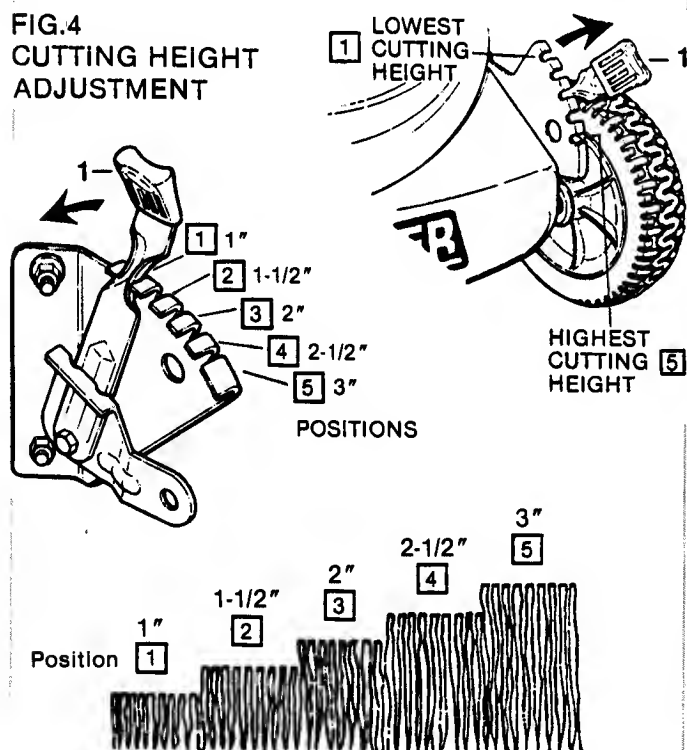

FIG. 5-CUTTING HEIGHT SETTINGS
- **CHECK** cutting height and adjust as needed, to suit the prevailing grass conditions. Refer to FIG. 5.
During dry seasons, allow the grass to grow taller than normal. Refer to FIG. 5.
To raise or lower handle (14), loosen the adjusting locknuts (A) on both sides of handle shown in FIG. 5-A. Reset handle to desired position and re-tighten the locknuts.